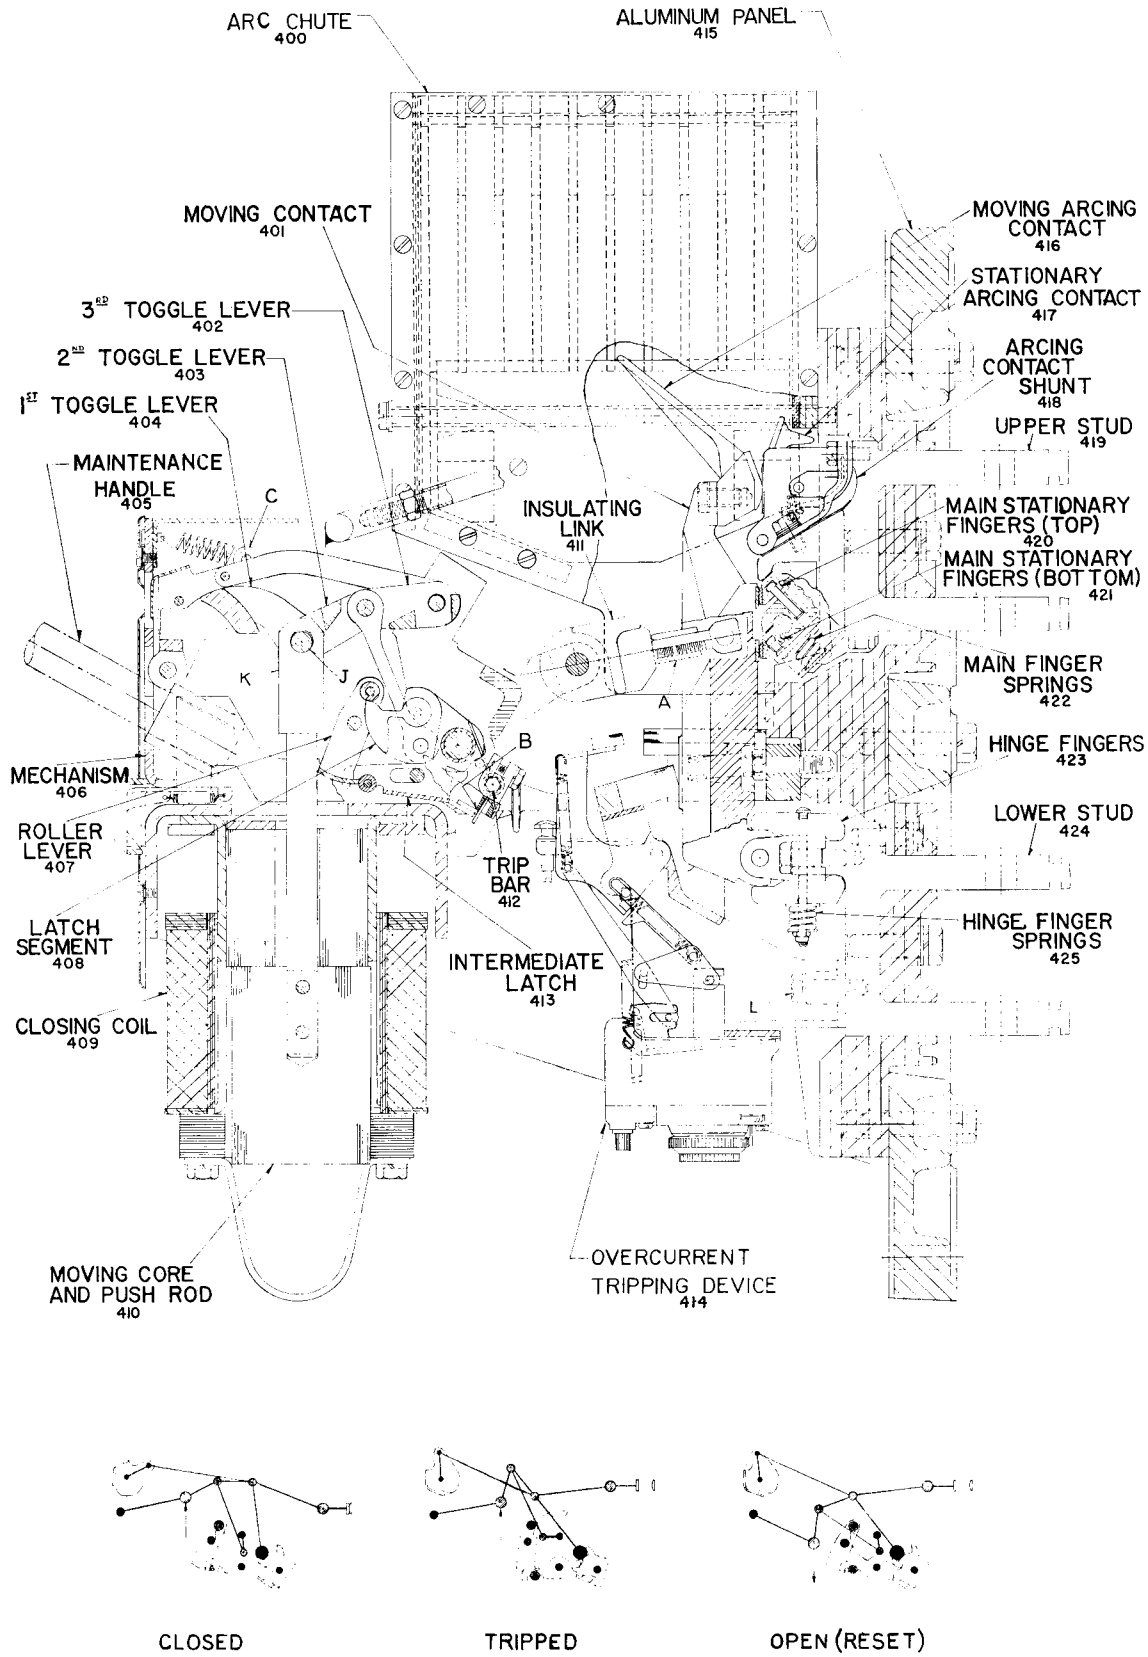

FIG. 3. Cross-Sectional View of Air Circuit Breaker
Each pole unit (Fig. 3) is mounted on a separate molded base. The molded bases are attached to the aluminum mounting panel and provide insulation for the breaker studs.
Contacts. (See Fig. 3.) The arcing contacts must touch first on closing and open last on opening.
The operating mechanism (Fig. 3) is non-adjustable and consists of a series of non-ferrous links designed to secure low closing and tripping forces. To check for friction, with the breaker open, raise trip finger and slowly lower the closing handle. Release trip finger and slowly raise handle. The linkage should follow the handle without sticking and a "click" will be heard just before the handle reaches the full up position.
7. Before assembling mechanism check sliding surfaces of two latches shown at "B", Fig. 3. These surfaces must be clean, free of burrs, and have not more than .035 inch clearance in the reset position.